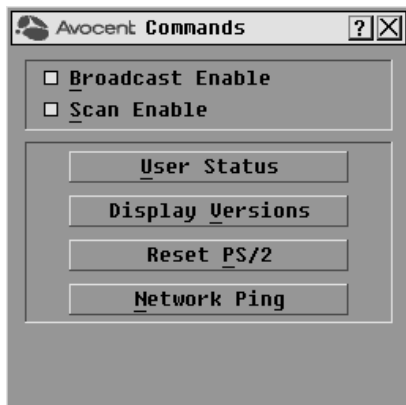

Figure 3.18: OSCAR Interface Commands Dialog Box
2. Click *Commands* to open the Commands dialog box shown in Figure 3.18.